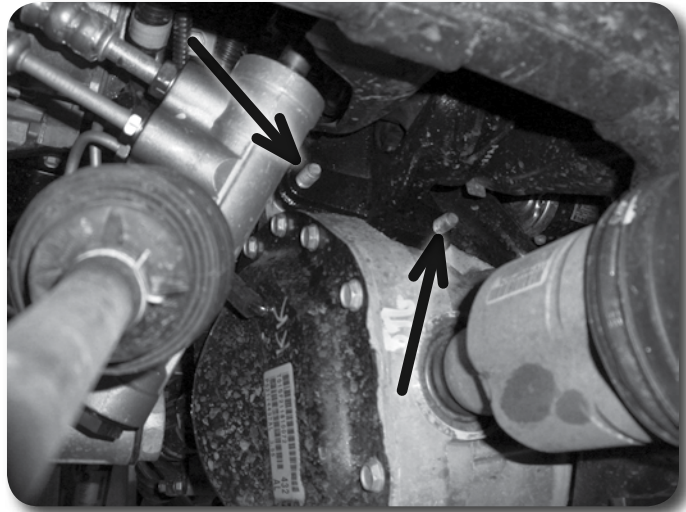

Figure. 8
28. Using a jack, support the differential. Loosen and remove the two forward-most differential mounting bolts on the driver's side **Figure 8**. Loosen but do not remove the three rear driver's side bolts **Figure 9** and the two passenger's side bolts, discard the differential wiring harness retaining clip **Figure 10**.